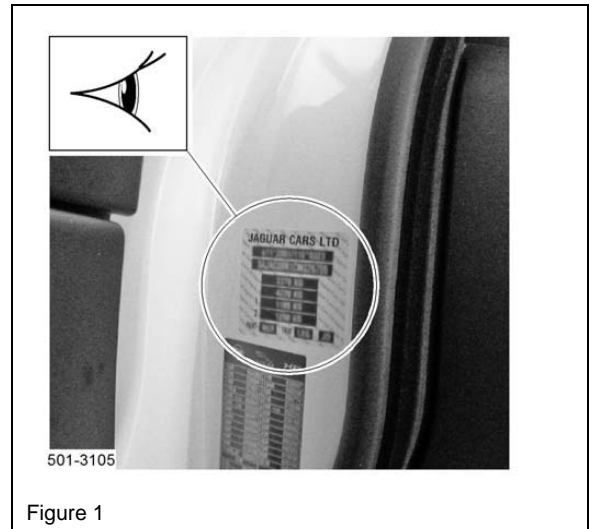

Figure 1
2. Use a suitable tool to remove the existing Certification / Compliance Label from the left outer 'A' post. (Figure 1)